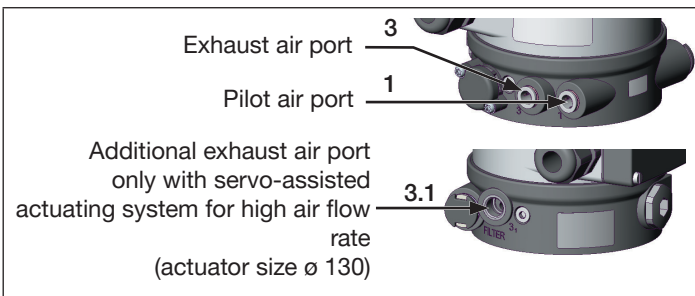

Fig. 9: Pneumatic connection
- Connect the control medium to the pilot air port (“Fig. 9”: 1) (3–7 bar; instrument air, oil-, water- and dust-free).
- Install the exhaust air line or a silencer onto the exhaust air port (“Fig. 9”: 3) and – if available – to the additional exhaust air port (“Fig. 9”: 3.1).